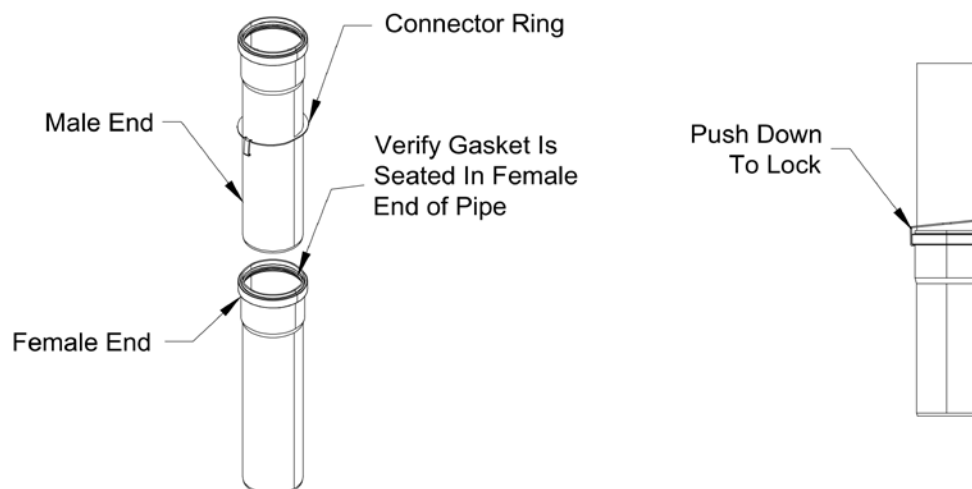

Figure 7.43: InnoFlue Connector Ring Installation
- c. For each joint, verify that the gasket is evenly seated in the bell (female) end of the pipe. Lubricate this gasket with Centrocerin # IACE50. Slide a connector ring over the male end of the pipe to be joined as shown in Figure 7.43. Push the male end of the next section of pipe into the bell until it bottoms out, then back out 1/4" to provide room for thermal expansion. Push hook on connecting ring over the bell end of the first section of pipe as shown in Figure 7.43.